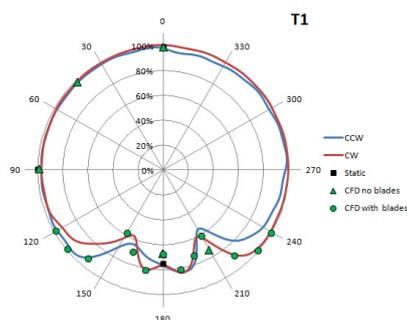

Figure 2: Thruster-hull interaction comparison between experiments (lines) and CFD (symbols) on a drill ship for which one thruster is active.
Figure 2 presents results for thruster-hull interaction for a drillship with six thrusters, of which one thruster is active. The solid lines show the experimental data, where the thruster is rotated either in clockwise (CW) or counter clockwise (CCW) direction. The symbols denote the CFD results. Good agreement for the thruster-interaction (within 5% of the experiments) is obtained between experiments and CFD simulations.